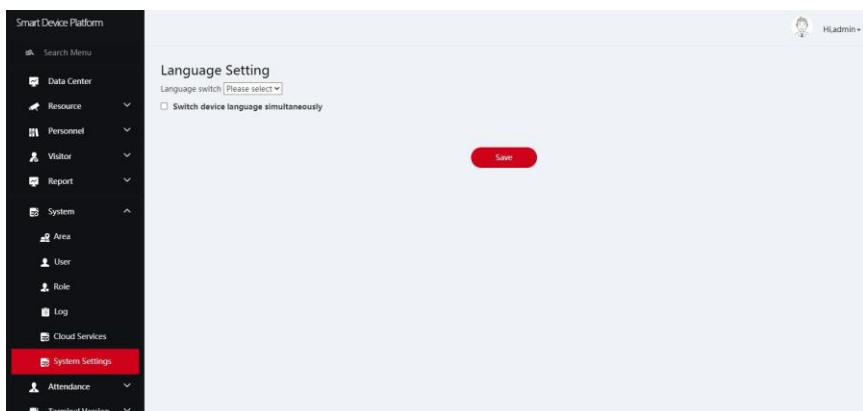

Figure 5-82
Step 1: In the smart device platform interface, click "System→Cloud Services" to enter the system setting interface, as shown in Figure 5-82 below.